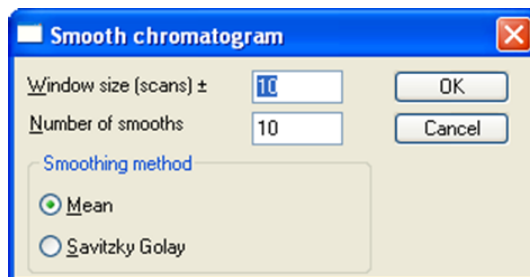

Figure 10 - Smoothing the chromatogram
10. Open the resulting chromatograms on a single page and smooth both with the settings shown in Figure 10.